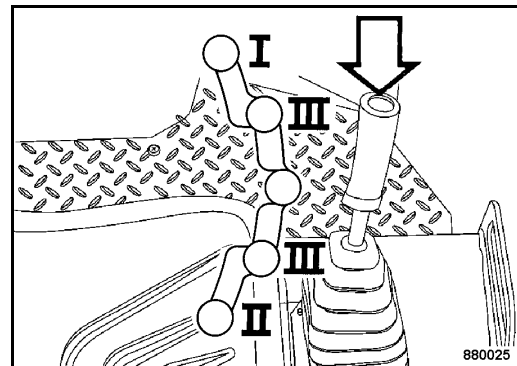

Fig. 75
- Actuate the vibration push button (Fig. 75) only after shifting the travel lever to the desired travel direction.